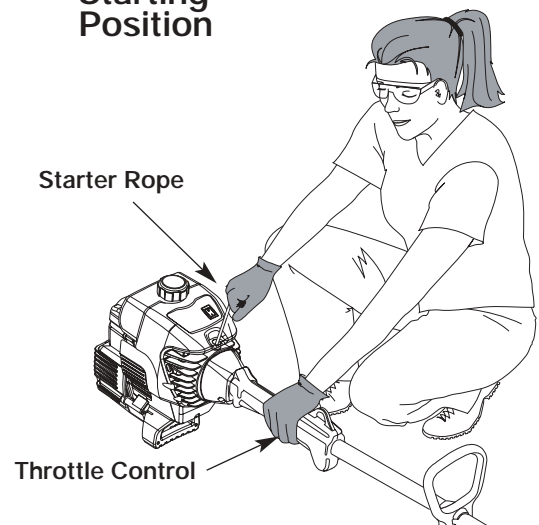

Fig. 8
**WARNING:** Avoid accidental starting. Make sure you are in the starting position when pulling the starter rope (Fig. 8). To avoid serious injury, the operator and unit must be in a stable position while starting.
5. Crouch in the starting position (Fig. 8) and squeeze the throttle control. Pull the starter rope out with a **controlled and steady motion** 5 times.